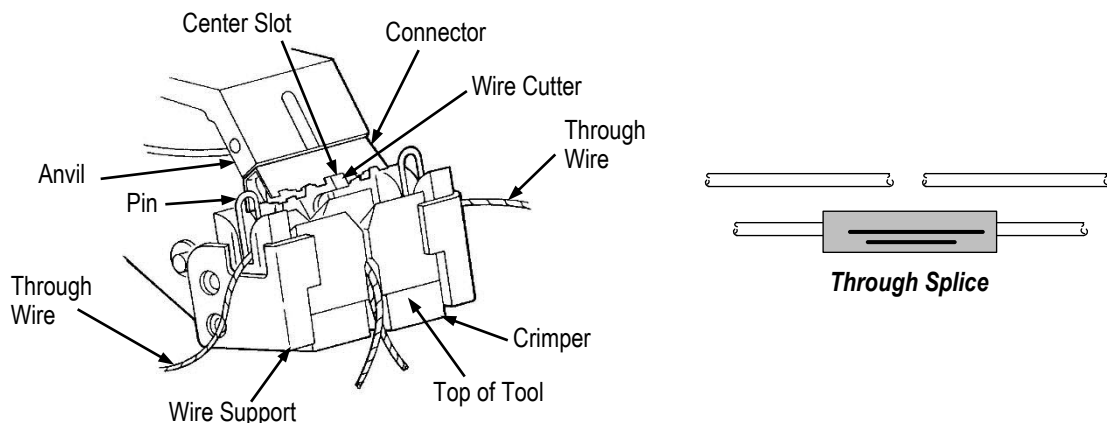

Figure 3
### 5.1. Through Connections (See Figure 3)
3. Check for a metal leg protruding from the center of the connector. This is caused by improper location of the connector in the tool. If you find any, replace the connections. Be especially careful to insert the connector in the tool so that the slot in the connector engages the wire cutter, and that the notch in the wire cutter does NOT interfere with the connector. See Figures 3, 4, and 5.